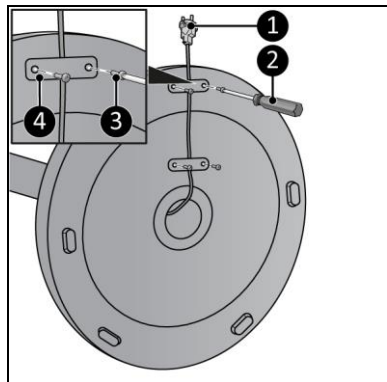

Figure 8
9. Fix the power cable (Figure 8, pos. 1) to the base with the two plastic fittings (Figure 8, pos. 4) and 4 screws (Figure 8, pos. 3) with a Phillips screwdriver (Figure 8, pos. 2).